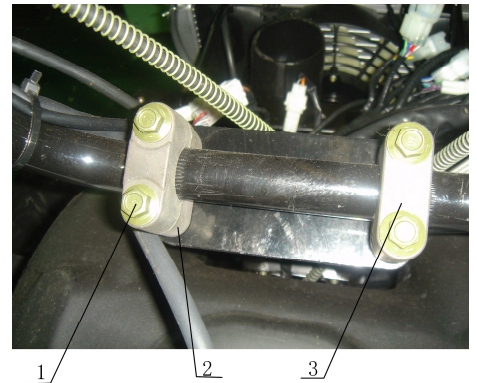

Figure 4-1-2)
(Figure 4-1-2)
2. Remove steering bar clip (附图4-1-2)